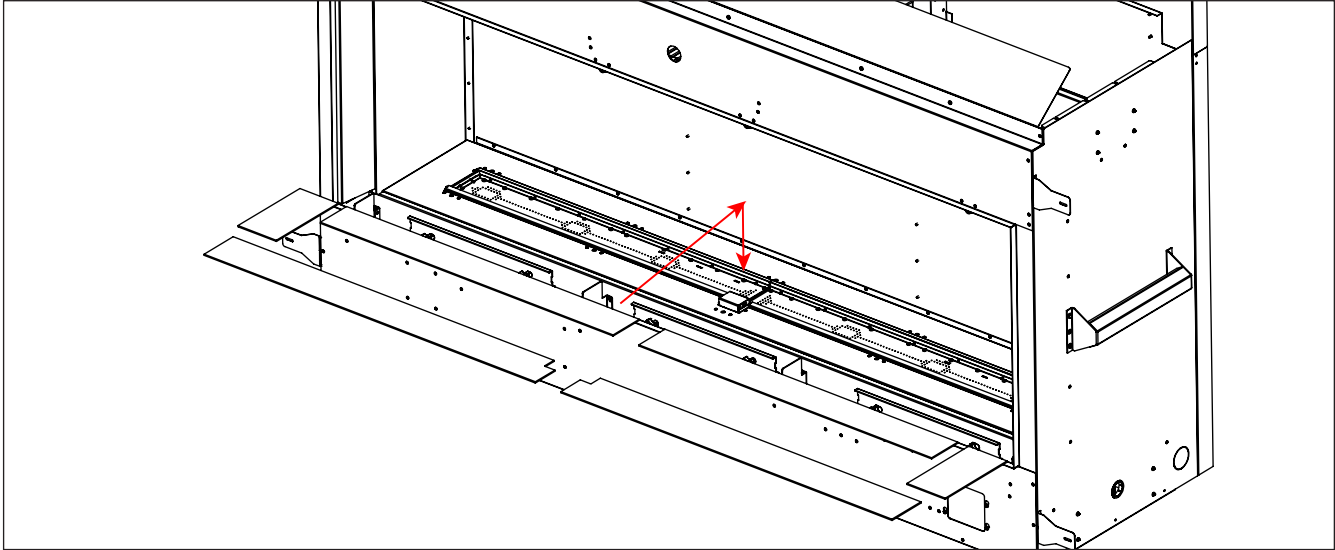

Figure 57: Burner Bezel Placement
2. Place the bezels directly onto the burner platform as shown in Figure 57. No fasteners are required.